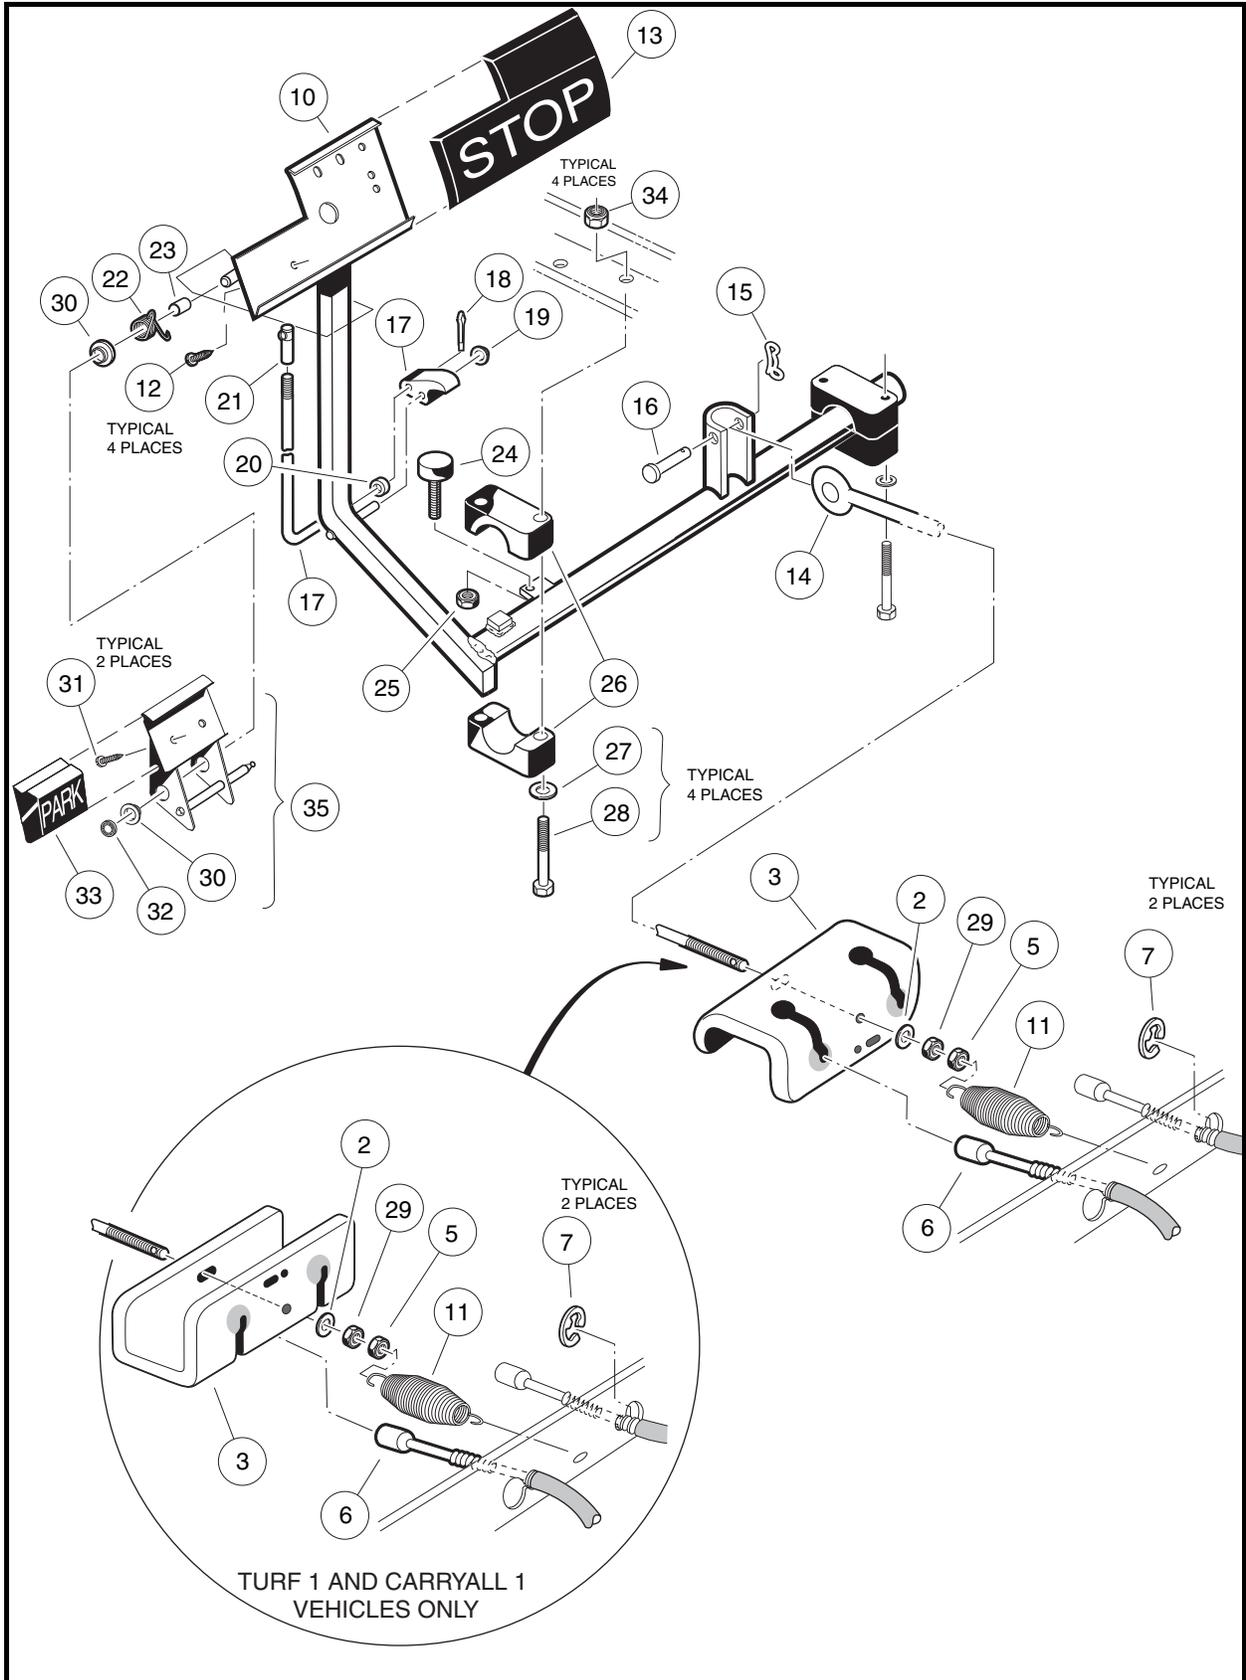
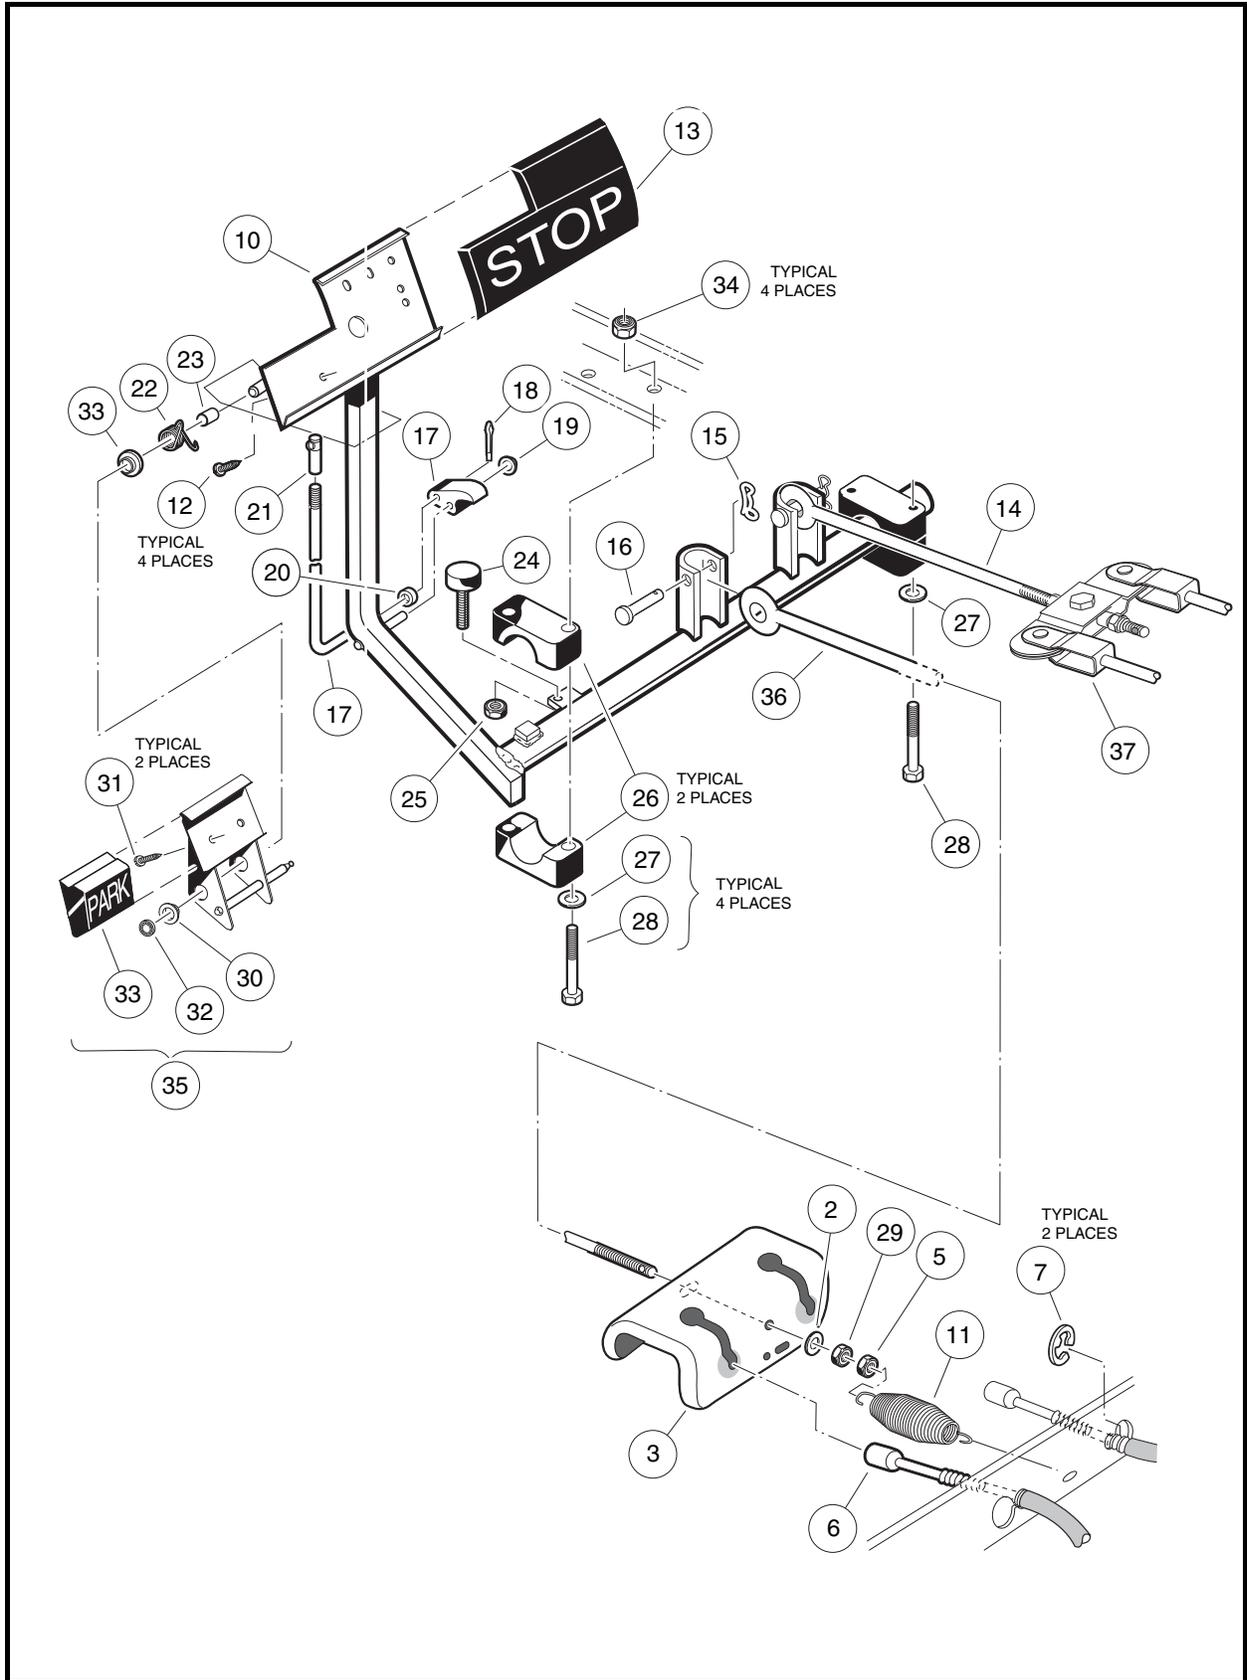
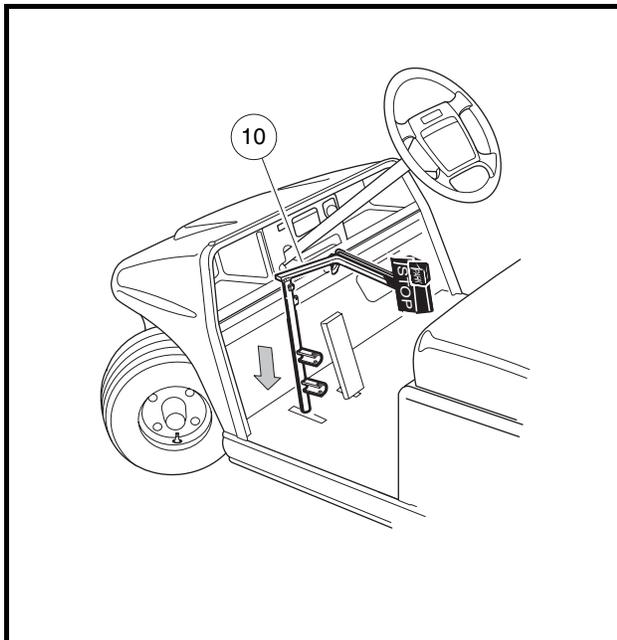

Figure 5-1 Brake and Park Brake Pedal Assembly and Mounting – Two-Wheel Brake Vehicles
Figure 5-2 Brake and Park Brake Pedal Assembly and Mounting – Four-Wheel Brake Vehicles
Figure 5-3 Brake Pedal Weldment Through Floor
- 3.1. Disconnect the equalizer rod(s) (14 and 36) from the pedal shaft by removing the clevis pin(s) (16) and bow-tie pin(s) (15) (**Figure 5-1, Page 5-2 or Figure 5-2, Page 5-3**).
- 3.2. Remove the nuts (34), flat washers (27), bolts (28), and mounting blocks (26). If the mounting blocks (26) show signs of excessive wear or are damaged, they must be replaced with new ones before installing pedal assembly (**Figure 5-1, Page 5-2 or Figure 5-2, Page 5-3**).
- 3.3. Remove the nut (25) and brake stop bumper (24) (**Figure 5-1, Page 5-2 or Figure 5-2, Page 5-3**).
- 3.4. Lift the pedal assembly (10) through the floorboard (**Figure 5-3, Page 5-4**).
1. From the top side of the floorboard, insert the brake pedal assembly (10) (**Figure 5-1, Page 5-2 or Figure 5-2, Page 5-3**) through the opening in the floor as shown (**Figure 5-3, Page 5-4**) and install the brake pedal stop bumper (24) (**Figure 5-1, Page 5-2 or Figure 5-2, Page 5-3**) on the brake pedal assembly, but do not tighten the jam nut (25) at this time.
2. Secure the equalizer rod(s) (14 and 36) to the brake pedal assembly (10) with clevis pin(s) (16) and bow-tie pin(s) (15) as shown (**Figure 5-1, Page 5-2 or Figure 5-2, Page 5-3**). Tighten to 17 in-lb (1.9 N·m). **See following NOTE.**
3. Position and attach brake pedal assembly, mounting blocks (26), and washers (27) to vehicle frame as shown. Tighten the bolts (28) and nuts to 113 in-lb (12.8 N·m) (**Figure 5-1, Page 5-2 or Figure 5-2, Page 5-3**).
- 3.1. To remove the park brake rod and pawl assembly (17 through 20), remove the push nut (19) and disconnect the ball joint sleeve (21) from the park brake pedal (35) (**Figure 5-1, Page 5-2 and Figure 5-2, Page 5-3**). See following **NOTE.**